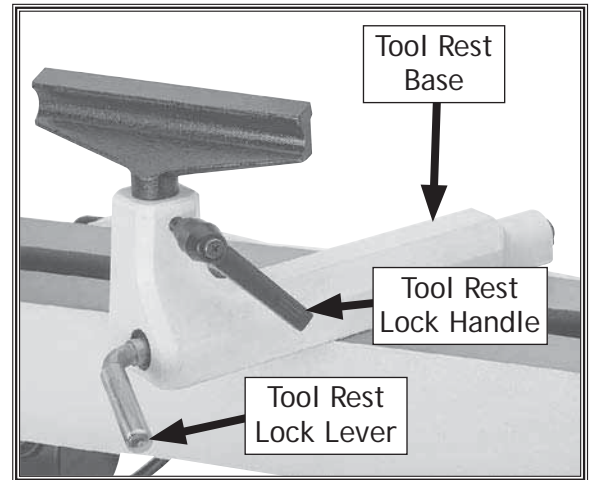

Figure 19. Tool rest controls.
1. Loosen tool rest lock lever and slide tool rest base along bed (see Figure 19).